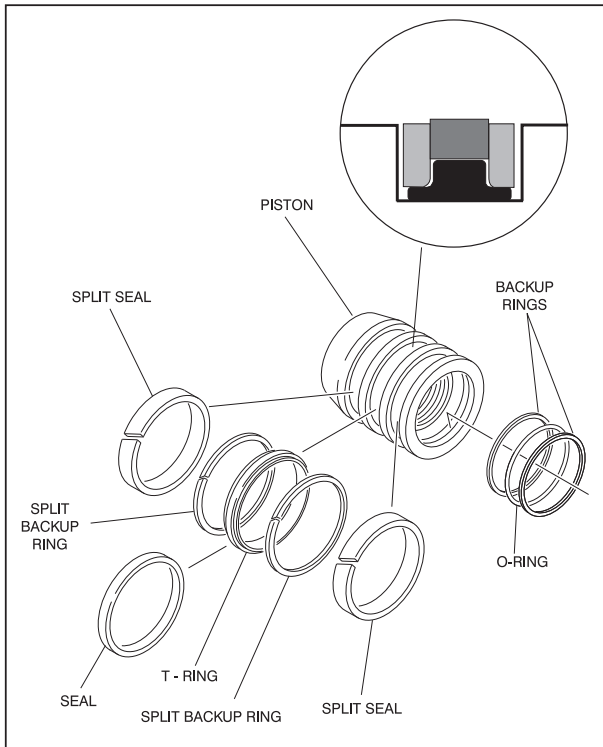

Figure 2-15. Piston Seal Kit Installation
NOTE: The backup rings for the solid seal have a radius on one side. This side faces the solid seal. (See magnified insert in Figure 2-15.) The split of seals and backup rings are to be positioned so as not to be in alignment with each other.
- Place new guide locks and seals in the applicable outside diameter grooves of the cylinder piston. (See Figure 2-15., Piston Seal Kit Installation)